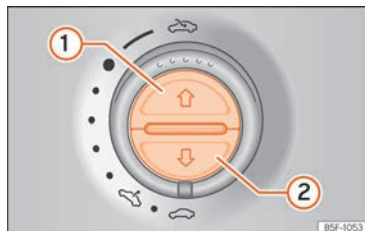

**Fig. 112** On the interior roof lining: sunshade blind buttons.
- Press button » Fig. 112 ① briefly.
- *Sun blind*: within approximately 5 seconds of activating the roll-back function, press and hold button »» Fig. 112 ② until the blind is fully closed.